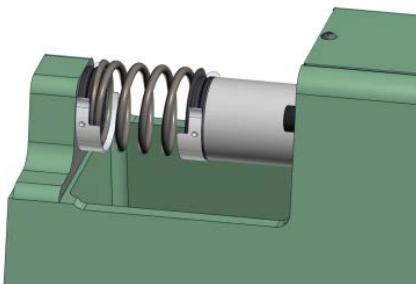
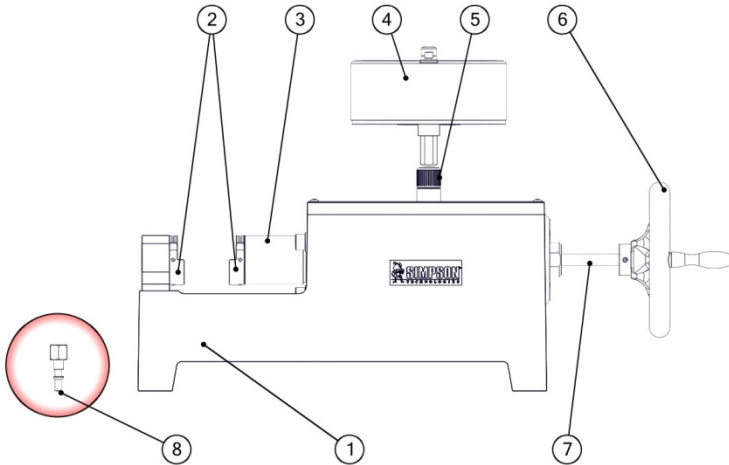

Figure 6.4.2
Figure 7.1: Front View
1. Take the pressure gauge off of the top of the Universal Strength Machine by simply unsnapping it from the Plug Coupling (Item 5, Figure 7.1).
2. Snap the Connecting Pin (Item 8, Figure 7.1) into the Plug Coupling where the pressure gauge is normally mounted. Use of a funnel is also recommended.
5. Use a wrench to unscrew the Spindle and Spindle Guide (Item 7, Figure 7.1) from the machine Base (Item 1, Figure 7.1).
10. Crank the Rotary Handle (Item 6, Figure 7.1) all the way in by rotating it clockwise until it will not turn any further. Also, make sure that the disengaged Hydraulic Piston (Item 3, Figure 7.1) is pressed in all the way toward the Base (to the right).
2. Take a slide gauge or caliper (not provided) to measure the spring length before you place the spring into the apparatus between the Compression Strength Accessories (Item 2, Figure 7.1). Record the length of the spring.
3. Put the spring in the apparatus between the two Compression Strength Accessories without any pressure applied. To ensure no pressure is applied, turn the Rotary Wheel (Item 6, Figure 7.1) counterclockwise to open the Compression Strength Accessories. (See Figure 6.4.2 below).
4. Now, turn the Rotary Handle clockwise until the pointer on the pressure gauge (Item 4, Figure 7.1) reaches 5 N/cm^2 on the outer scale for compression strength. Use a slide gauge to measure the spring distance between the Compression Strength Accessories. Record the measurement in the diagram at 5 N/cm^2 .